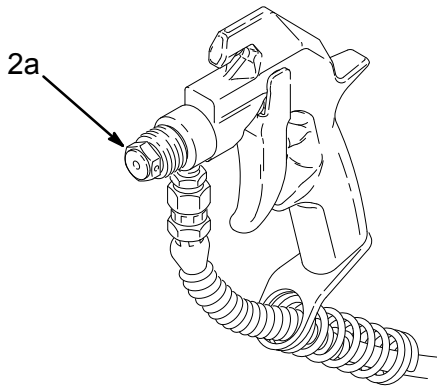

Fig. 5
4. Aim the gun into a grounded metal pail while holding it firmly to the pail. Trigger the gun. If the fluid emitted *is not* diffused into an irregular stream, replace the entire needle kit immediately. See Fig. 5.